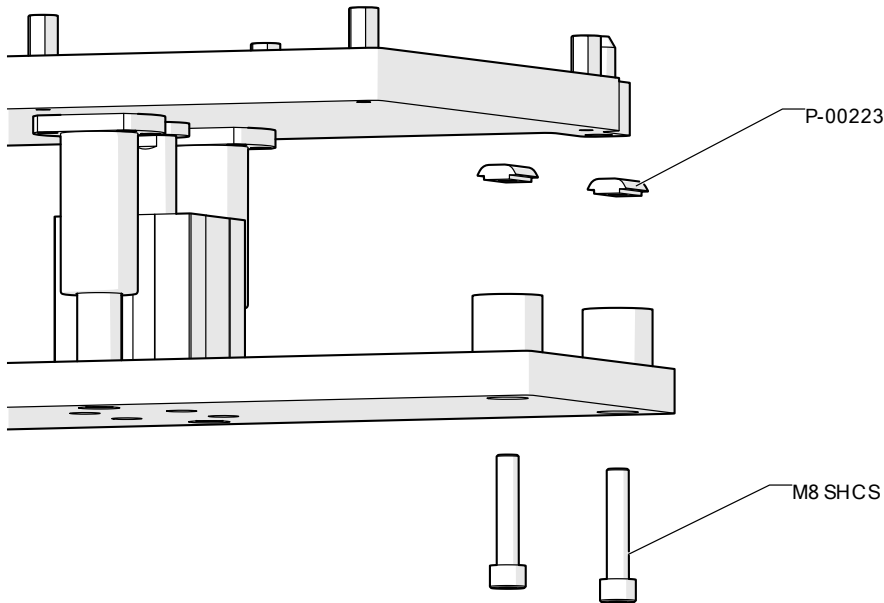

Figure 4: Removing Mounting Hardware
Step 2: Insert P-00223 into T-Slot on base of extrusion as shown in Figure 4.
When inserting P-00223 into the T-Slot, angle P-00223 to enable it to fit through the T-Slot opening. Once pushed up into the slot, you may align P-00223 as shown below in **Figure 4**.